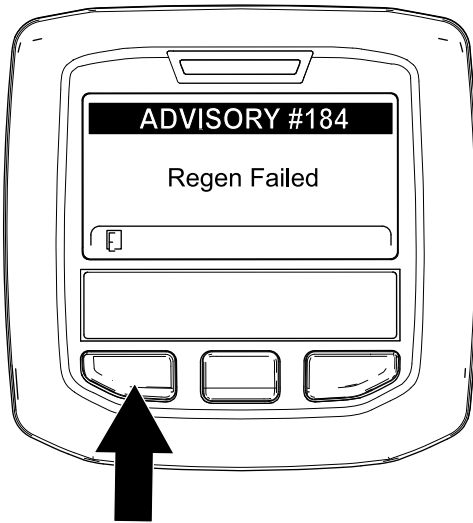

Figure 64
**Note:** If the regeneration fails to complete, the InfoCenter displays Advisory #184 (Figure 64). Press the left button to exit to the home screen.